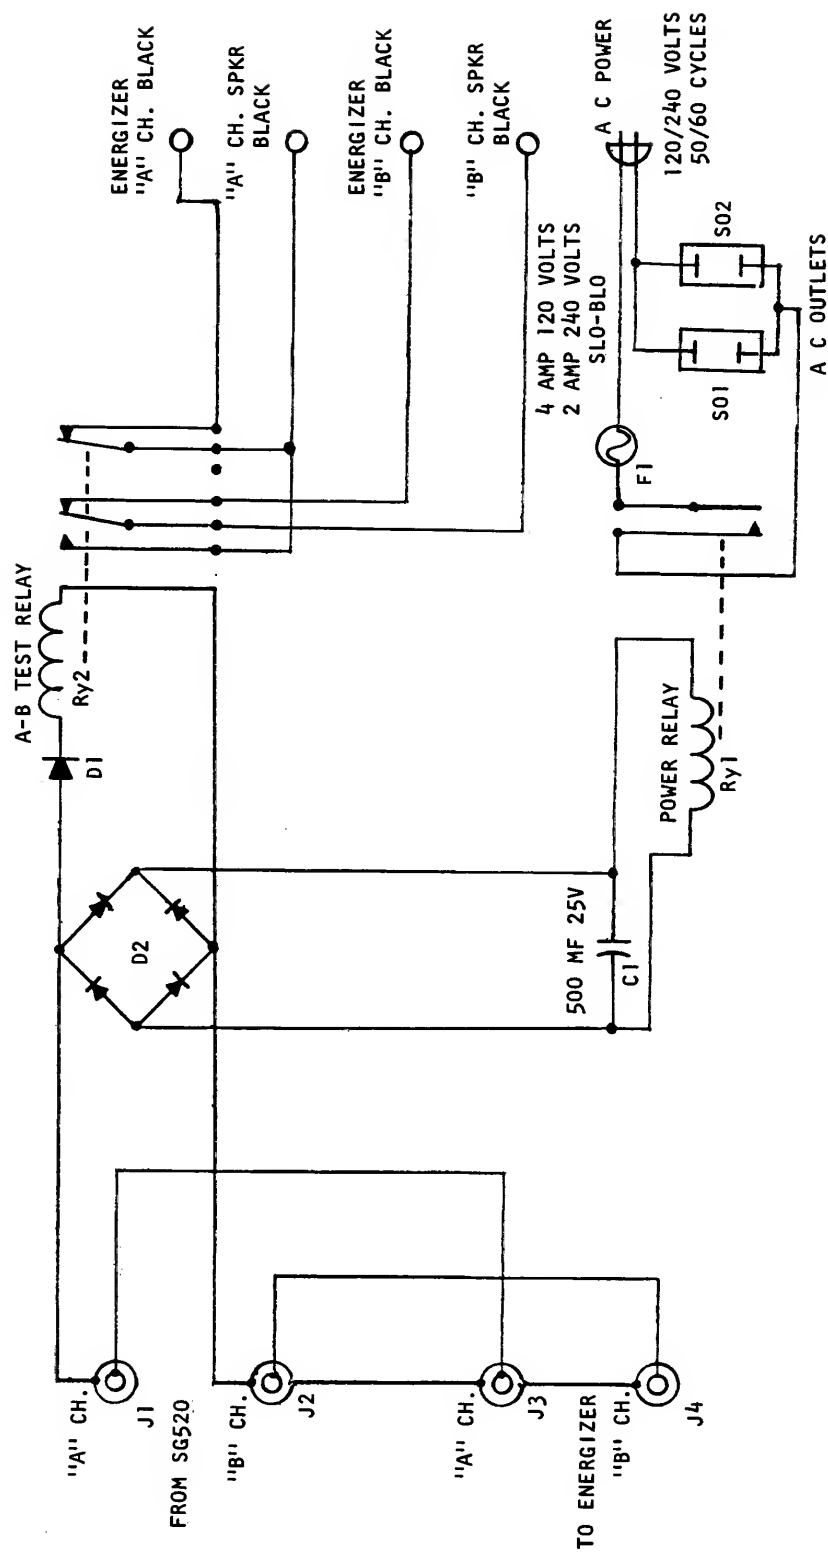

FIGURE 4-9 F22 SCHEMATIC
Step 3. Using an accurate electronic ac voltmeter (HP Model 400 recommended), trace the signal level at each stage of the amplifier. Refer to figure 4-9 which shows the component locations.